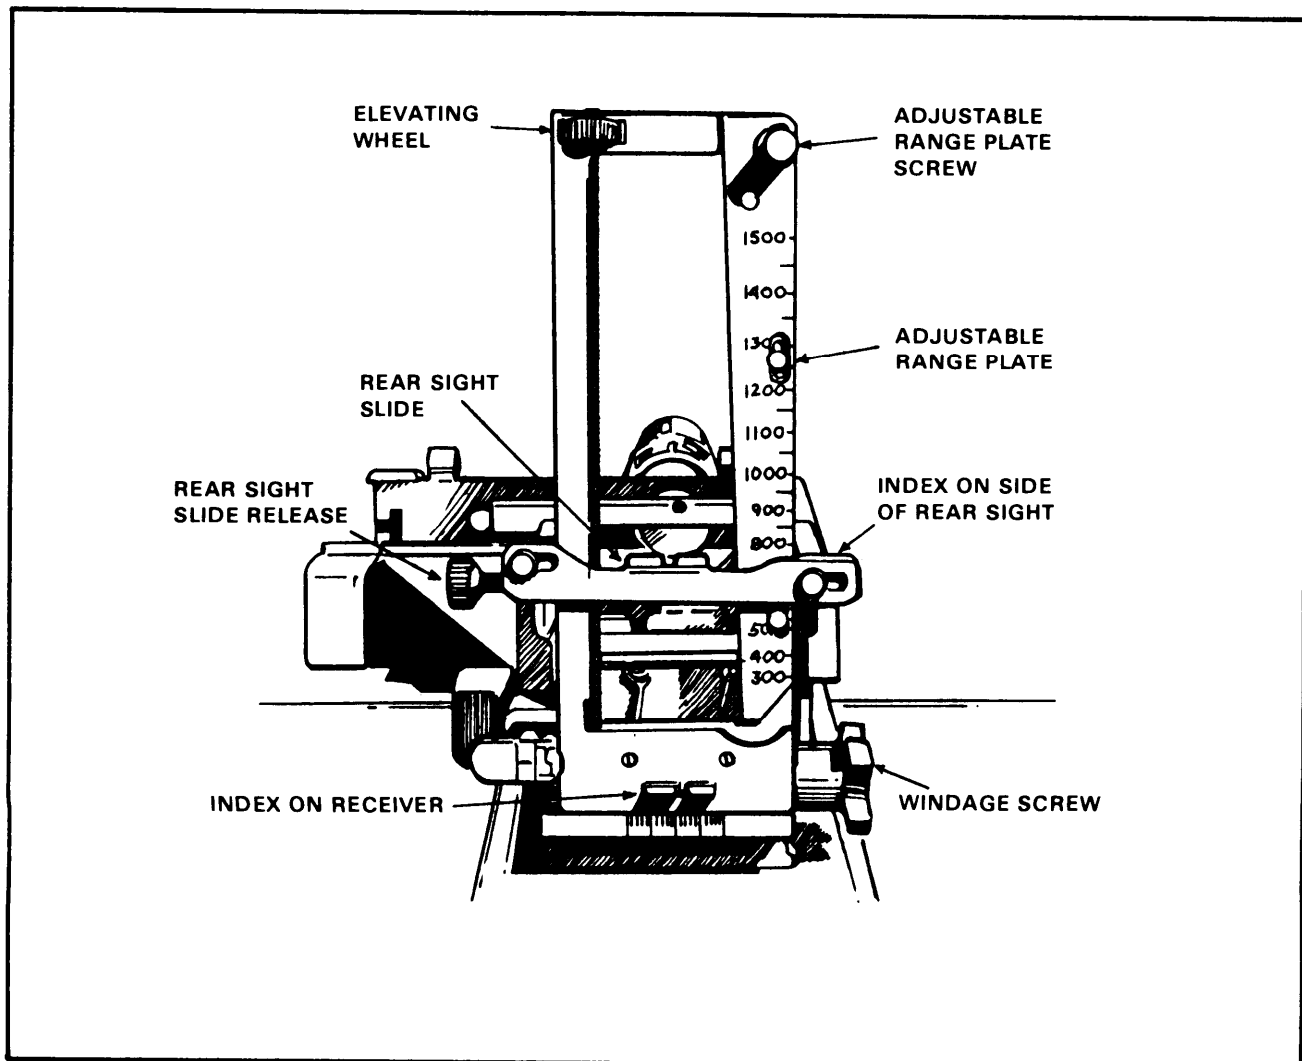

Figure 1-4. Rear sight.
c. The MK 19 has a leaf-type rear sight (with an adjustable range plate) mounted on a spring dovetail base, which should be folded forward to a horizontal position when the weapon is moved, and which has, on the sight leaf, a range plate incremented in 100-meter intervals from 300 to 1500 meters. Range changes may be made using either the slide release or the elevation wheel: the slide release is used for making major changes in elevation; the elevation wheel is used for making fine adjustments (Figure 1-4). The rear sight is adjustable for windage: turning the windage screw clockwise moves the sight to the right; turning it counterclockwise moves the sight to the left. One click equals a 1-mil change.